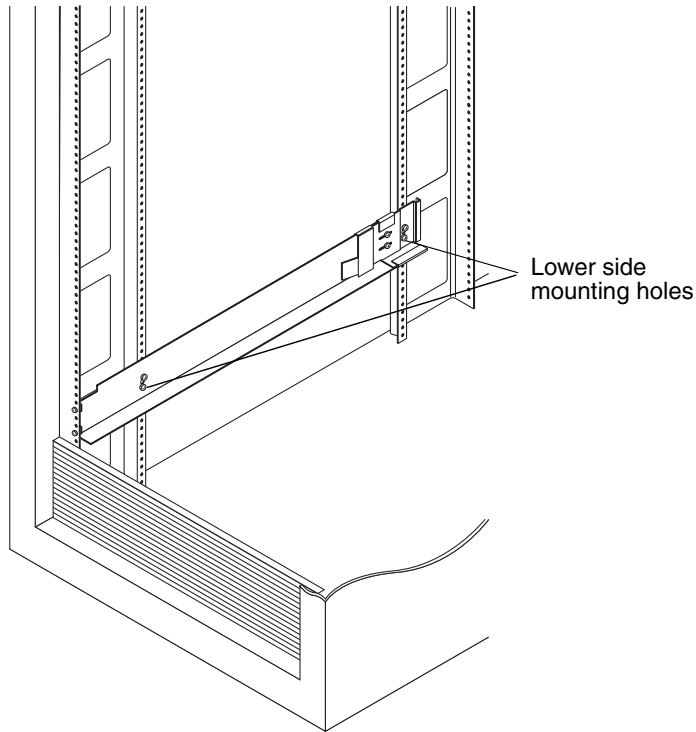

FIGURE 2-6 Inserting Screws in the Lower Side Mounting Holes of the Cabinet
10. Using the #2 Phillips screwdriver, insert two 10-32 screws in the lower side mounting holes of the side rails (FIGURE 2-6). Use hole 8 for the first tray and hole 11 for the second tray. Repeat for the right rail.